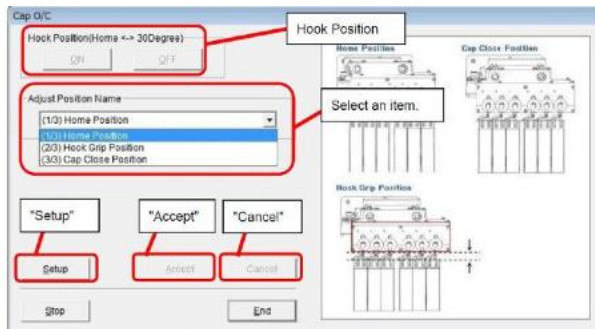

Figure 3.1 Adjustment screen
- Start SSW; Select **“Service – Adjustment – Reagent Cap O/C”** (Figure 3.1 displayed)